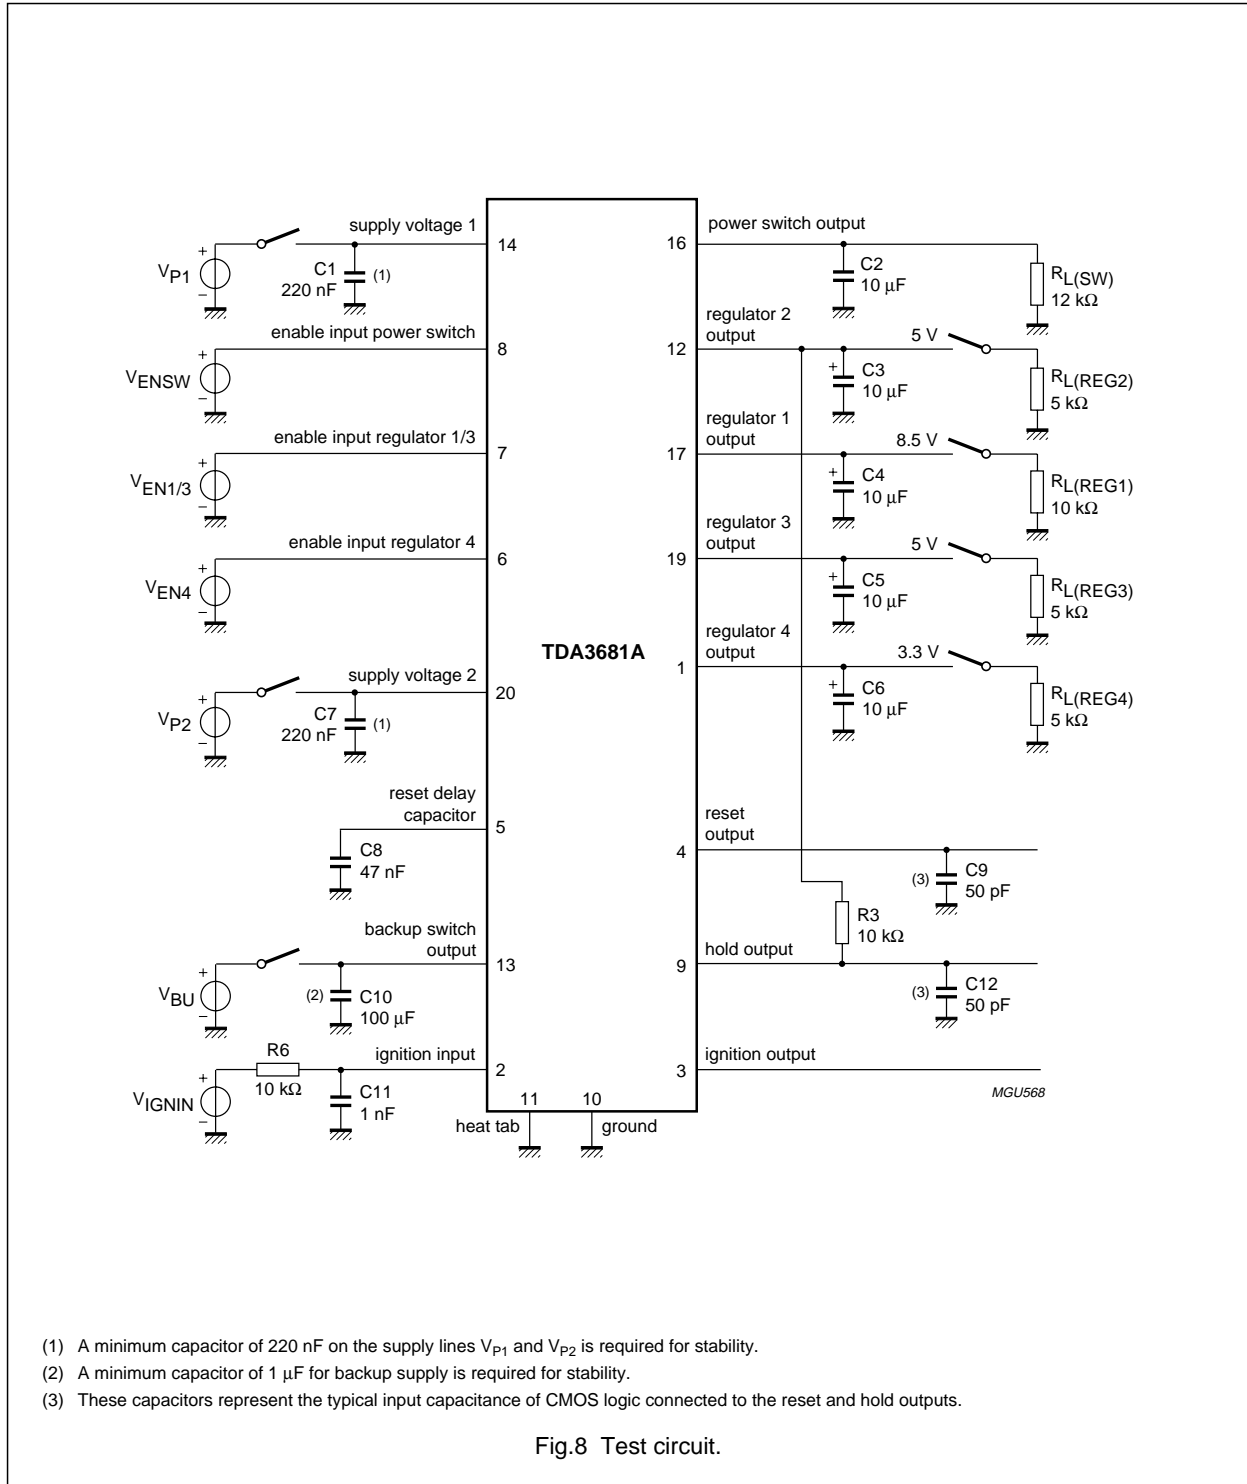

Fig.8 Test circuit.
2. The total quiescent current is measured in the standby mode. Therefore, the enable inputs of regulators 1, 3, 4 and the power switch are grounded and $R_{L(REG2)} = \infty$ (see Fig.8).